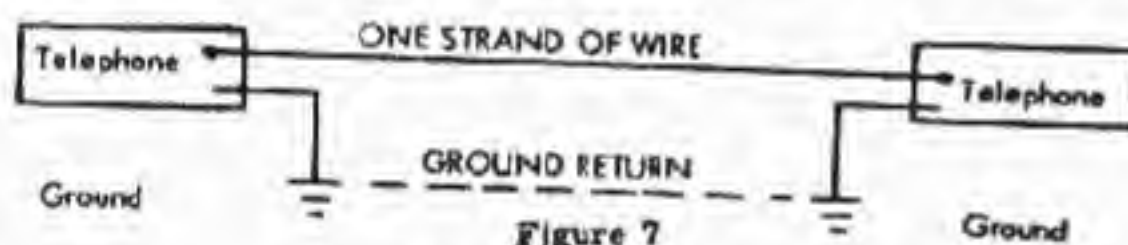

Figure 7
3. If wire is scarce, lay one strand of wire, hook it to one terminal, ground the other terminal, and have fine communications. (See Figure 7).